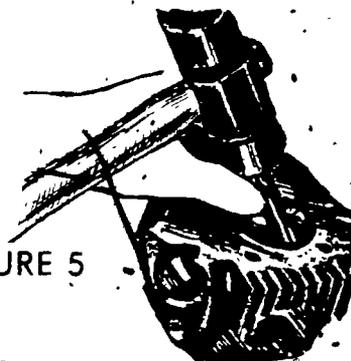

FIGURE 5
a. Remove worn guide (Figure 5)